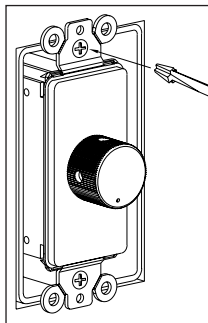

Figure 6
5. Secure the VCS-2D-HP to the electrical box or p-ring. Insert the 1/4" long device screws into the oblong-shaped screw holes on the top and bottom of the VCS-2D-HP. Note that the oblong shape of the screw holes allow you to position the VCS-2D-HP so that it is vertical. Position the VCS-2D-HP so that the screws are aligned with the threaded holes in the electrical box or p-ring. Tighten the screws using a phillips screwdriver. **DO NOT OVER-TIGHTEN.** In some instances, you may need to loosen these screws several turns to allow the VCS-2D-HP to fit flush with the Decora cover plate. See (Figure 6).